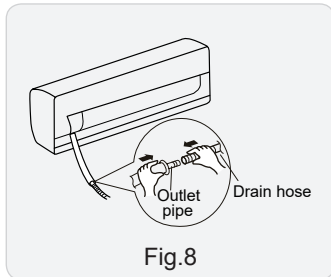

Fig.8
(1) Connect the drain hose to the outlet pipe of indoor unit.(As show in Fig.8)
(2) Bind the joint with tape.(As show in Fig